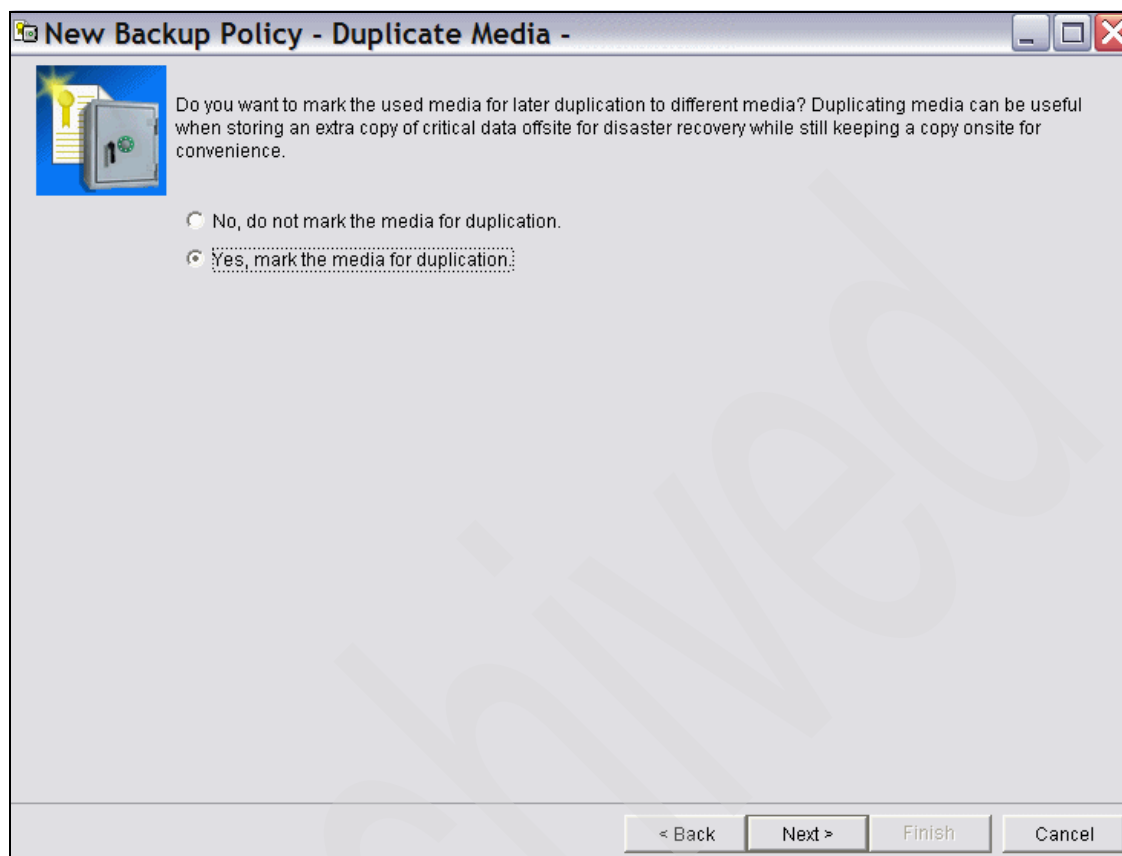

Figure 5-28 BRMS backup policy, duplicate media
14. Virtual media should always be secured to physical media. In the Duplicate Media window shown in Figure 5-28 on page 216, select **Yes, mark the media for duplication**, and click **Next**.